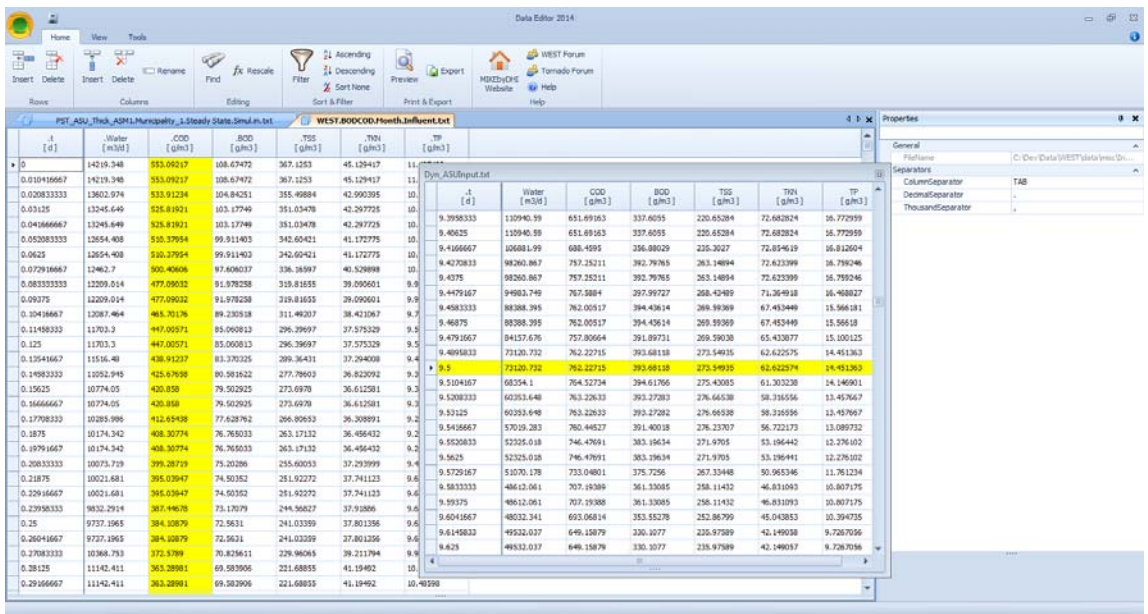

Figure 8.1 Three data files opened in the Data Editor
- The content of the file will be displayed as a Table in a new Sheet (cf. Figure 8.1)